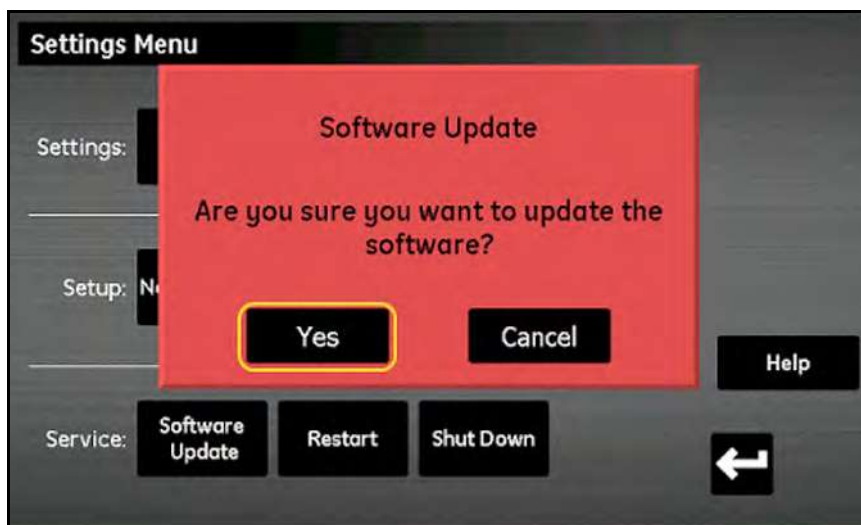

Figure 78: Update Confirmation
6. The moisture.IQ prompts you to confirm you want to update the software (see *Figure 78* below). Tap the **Yes** button.